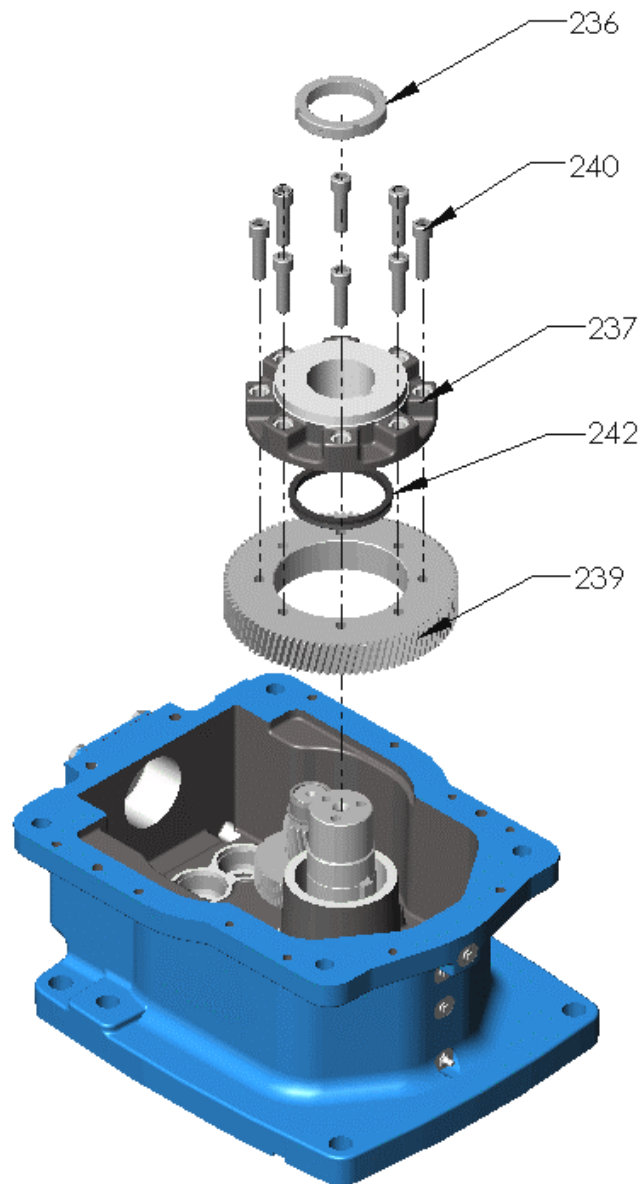

Figure 17 – Gear Carrier
- H. Install V-ring [242] in gear flange [237] and heat flange to 120° C (248° F) (refer Figure 17).
- I. At output shaft [244], install the following items: (refer Figure 17).
- J. Lift gear [239] to engage tenon on the flange and install bolts [240] (refer Figure 17). Make sure the gear is sitting flat on the gear flange. Use feeler gage to check
- K. Torque-tighten bolts [240] to value given in Table 1 (refer Figure 17).